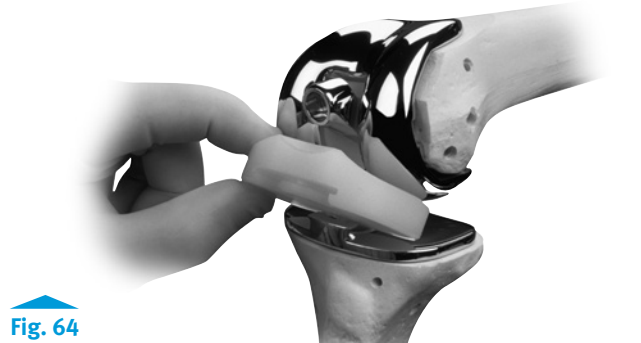

Fig. 64
- Place the Tibial Articular Surface onto the Tibial Base Plate and slide it anteriorly until it engages the tabs (Fig. 64).